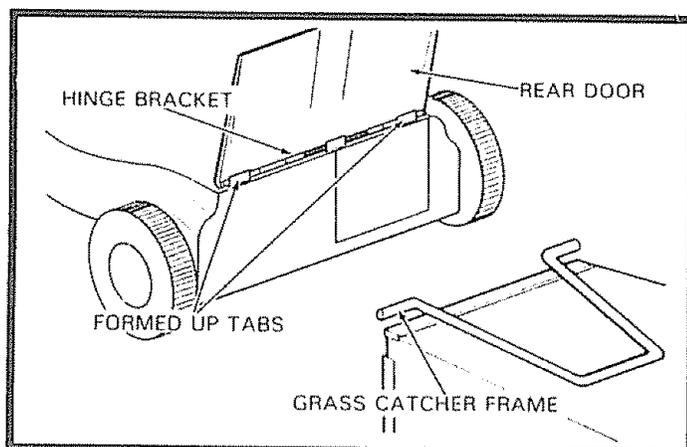

FIG. 6A
- Lift the Rear Door on the Lawn Mower Housing and place the Grass Catcher Frame onto the formed up Tabs on the Rear Door Hinge Bracket (See Fig. 6A).